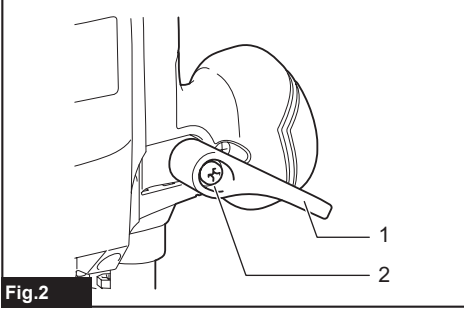

Fig.2
▶ **Fig.2:** 1. Lock lever 2. Screw